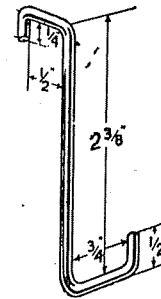

Fig. 32.
- (3) Remove bleeder screws (1) and (3) and take out plug and gasket in the vacuum cylinder shell.
- (4) Remove five bolts (15) and spring washers (16) and remove end cover (10). Collect spring (5) and remove diaphragm (4) and gasket (2).
- (5) Take out circlip (14), withdraw disc and pipe (13), sealing ring (11) and valve spring (12).
- (6) Mark a line across the vacuum cylinder shell (21) and the end cover (17) to facilitate re-assembly.
- Remove nuts (18), spring washers (19) and remove clamp bolts (20) and pull shell off end cover.
- (7) Compress the return spring by pressing down on the end cover (1).
- Refer Figure 27 and instal hook clamps, Figure 32.
- (8) Remove three screws (4) and spring washers (3) and remove slave cylinder (5) from the end cover (1).